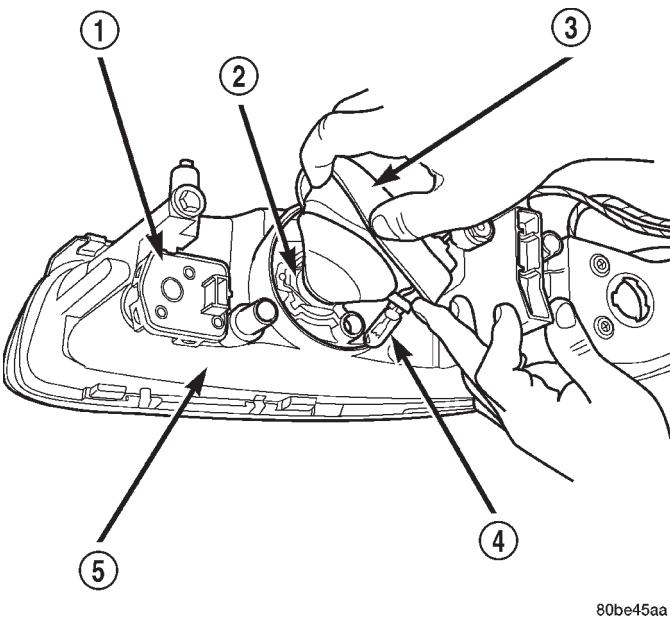

Fig. 4 Headlamp Module Orientation
(2) Install rubber boot in its original position (Fig. 4).
(3) Connect electrical on back of headlamp module.
(4) Verify lamp operation.
(5) Position the headlamp module and install retaining screws. Torque screws to 1 N·m (10in. lbs.).